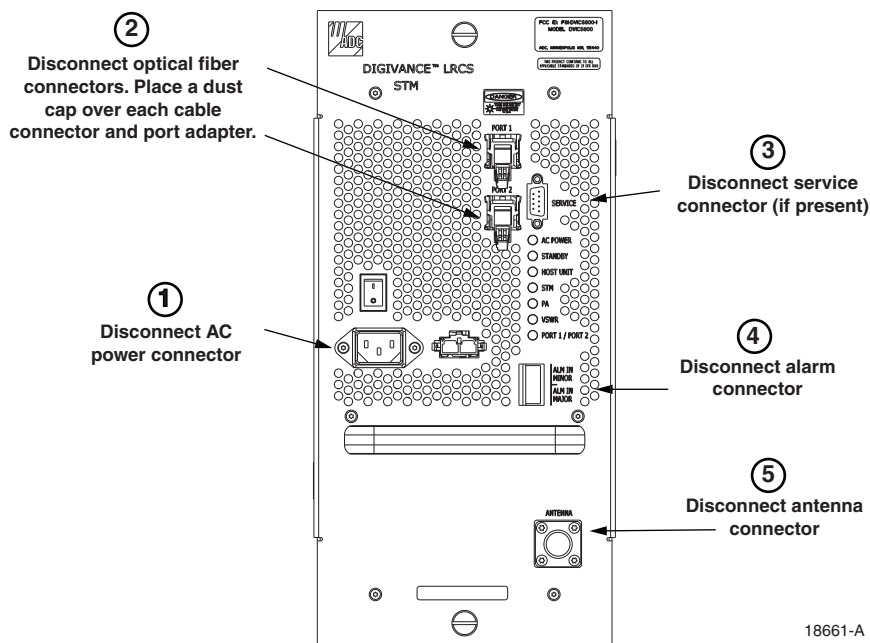

Figure 5-4. Spectrum Transport Module Cable Connections
4. Disconnect the various power, fiber optic, service, alarm wiring, and coaxial cable connectors from the STM front panel as specified in Figure 5-4.
14. Re-install the STM in the cabinet and then re-connect all cables in the reverse order in which they were disconnected (see Figure 5-4).